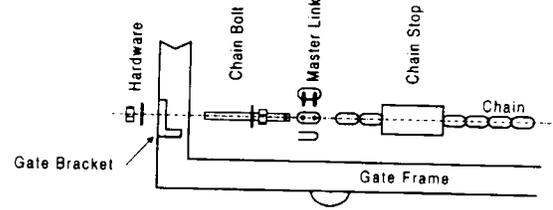

FIGURE 1.9.2A
4. Attach the chain to the chain bolts using the master links supplied, then attach the chain bolts to the chain brackets using the hardware supplied (figure 1.9.2A). Make any adjustments to the chain length at this time.